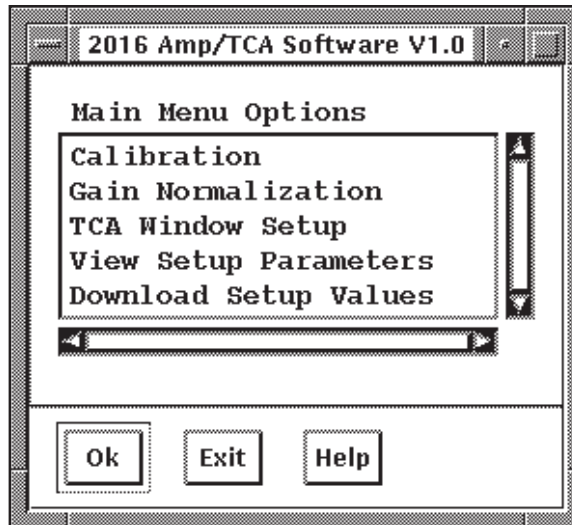

Figure 6 Starting the Calibration Procedure
2. Select Calibration from the next menu, as shown in Figure 6.